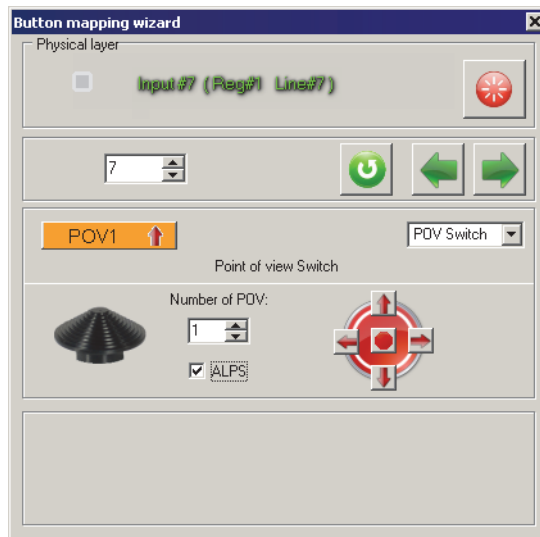

Fig. 4.28.
**Button mapping wizard** dialog for HAT is shown on Fig. 4.28.